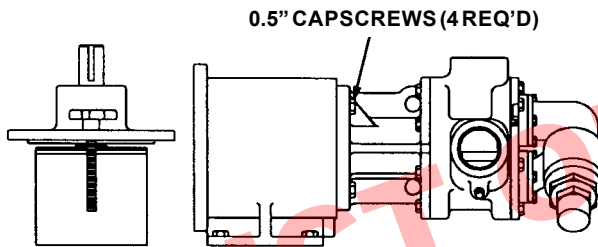

FIGURE 9
3. Support pump with hoist and remove the (4) .5" capscrows. See Figure 9. Pull the pump out of the bracket; there will be some resistance to pull apart since the inner magnet assembly will be attracted to the coupling bracket. If further disassembly of the bearing carrier is required, refer to page 7. Since there will be some liquid left in the canister, be aware that liquid will run out when the canister separates from the pump. Remove canister if it has not already come off the pump.